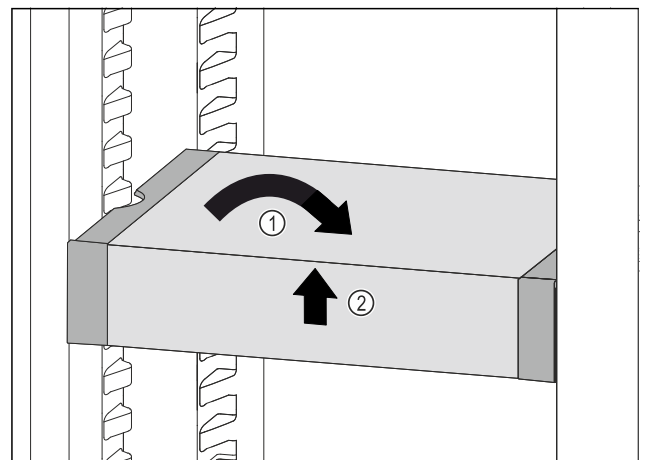

Fig. 152
- ▶ Set VarioSafe straight. Fig. 152 (1)
- ▶ Lift VarioSafe at the front. Fig. 152 (2)